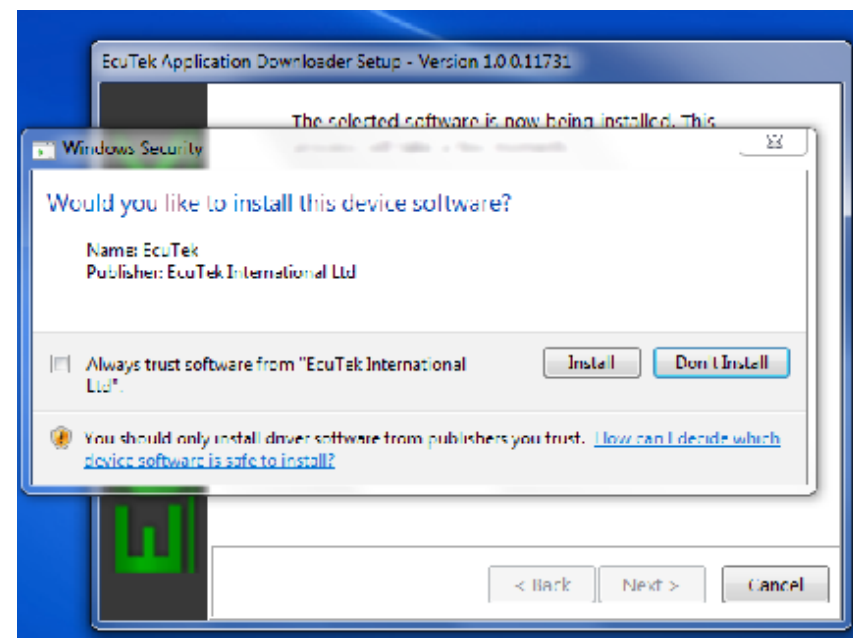

Fig. 1E
- E. It is recommended that you agree with Windows security warnings if they appear as shown below. Select [Install] to continue. See Fig 1E.